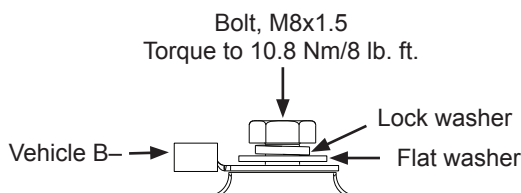

Figure 3: B- Terminal Hardware Stacking Order
6. Connect vehicle B- cable to alternator B- terminal. Install mounting hardware in stacking order shown in Figure 3. Torque hardware to 10.8 Nm/8 lb. ft.